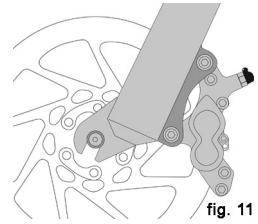
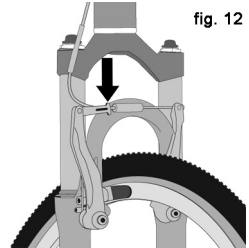

fig. 11
fig. 12
(1) If your bike has rim brakes, disengage the brake's quick-release mechanism to increase the clearance between the tire and the brake pads (See Section 4.C fig. 11 through 15).
(2) If your bike has rim brakes, disengage the brake's quick-release mechanism to increase the clearance between the wheel rim and the brake pads (see Section 4.C, figs. 11 through 15).
(3) On a derailleur gear system, pull the derailleur body back with your right hand.
- 3. Some bicycle brakes, such as disc brakes (fig. 11) and linear-pull brakes (fig. 12), are extremely powerful. Take extra care in becoming familiar with these brakes and exercise particular care when using them.**
Most rim brakes have some form of quick-release mechanism to allow the brake pads to clear the tire when a wheel is removed or reinstalled. When the brake quick release is in the open position, the brakes are inoperative. Ask your dealer to make sure that you understand the way the brake quick release works on your bike (see figs. 12, 13, 14 & 15) and check each time to make sure both brakes work correctly before you get on the bike.